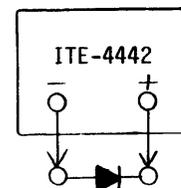

FIGURE 7A
5.21 Set the ITE-4442 or ITE-4442A Volt-Ohmmeter to the Rx1000 scale. Make the connections of Figure 7A or 7B.
NOTE: ITE-4442-The polarity stamping on the terminals of the V-O-M indicate the polarity of the voltmeter. The polarity of the ohmmeter is opposite to that of the voltmeter. The ohmmeter polarity, therefore, is the reverse of the stamped polarity. Figure 7A and the instructions of the following paragraphs take this into account.